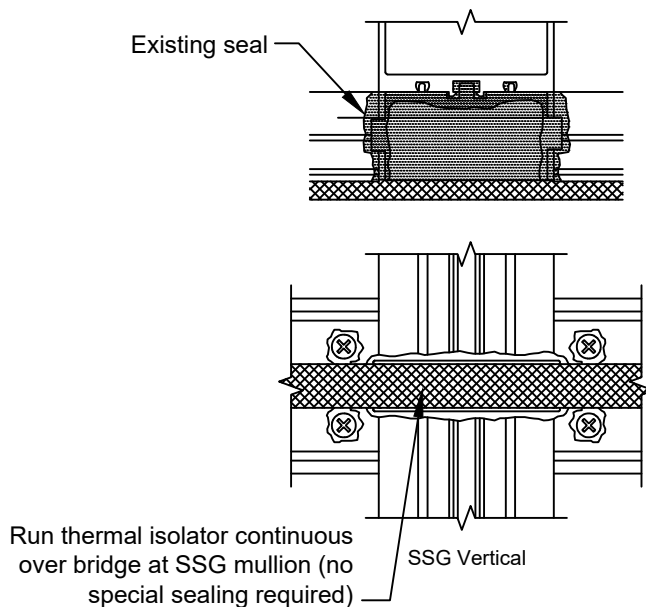

FIGURE 29
- 3.19 Thermal isolator when using SSG mullions will run continuous. No additional sealant is required at these intersections. **SEE FIGURE 29.**